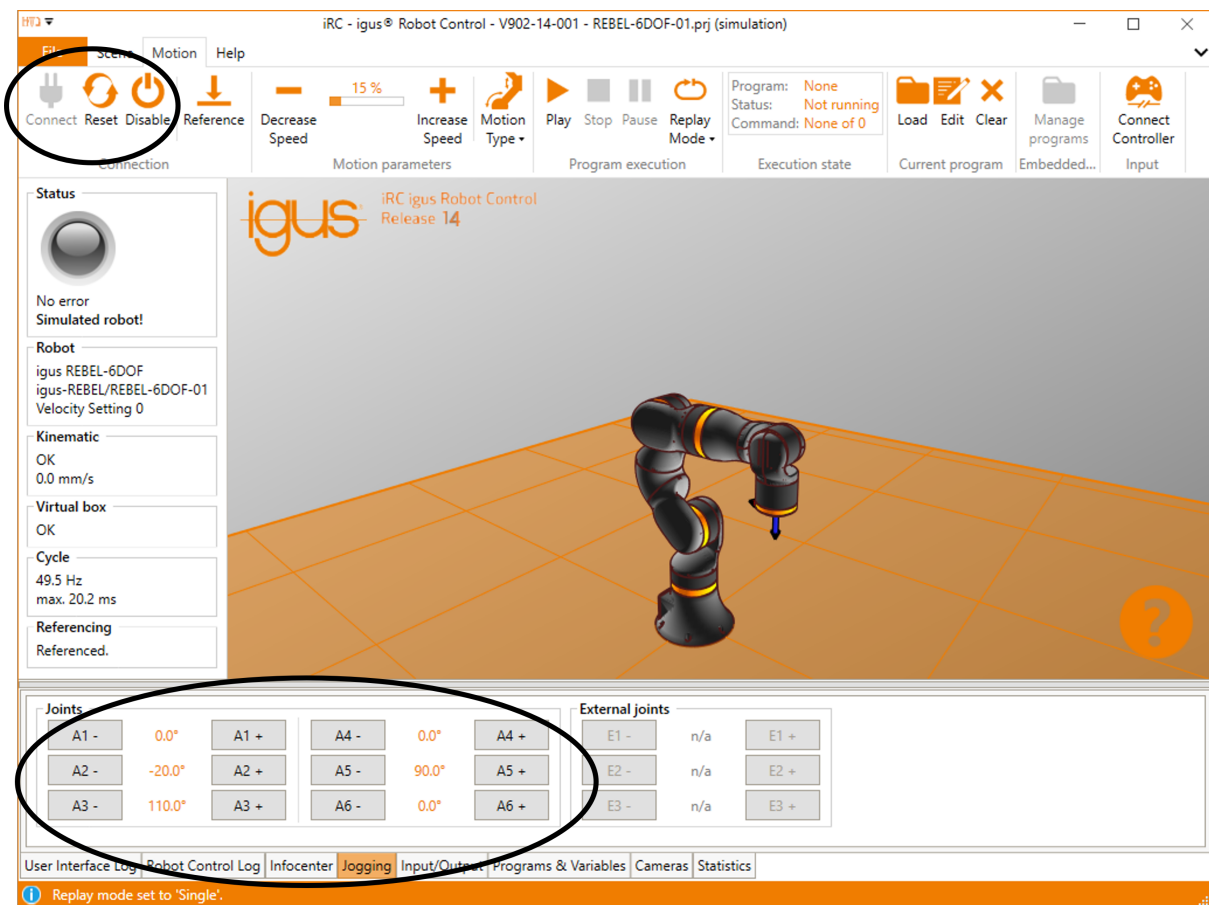

Figure 2: Jog Commands
3. You can now activate the robot by pressing the following buttons in the given order (see also Fig. 2):
- 5. You can now move the robot's joints using the buttons on the "Jogging" tab (see Fig. 2).